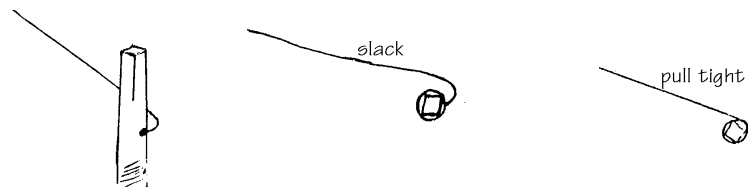

FIG. 22
- C) Pull on the wire to "set" it in the pin. (fig. 22) This puts a kink in the wire at the point where it enters the tiny hole in the tuning pin. If the wire pulls out of the pin when you pull on it, cut off the kinked end and try again.